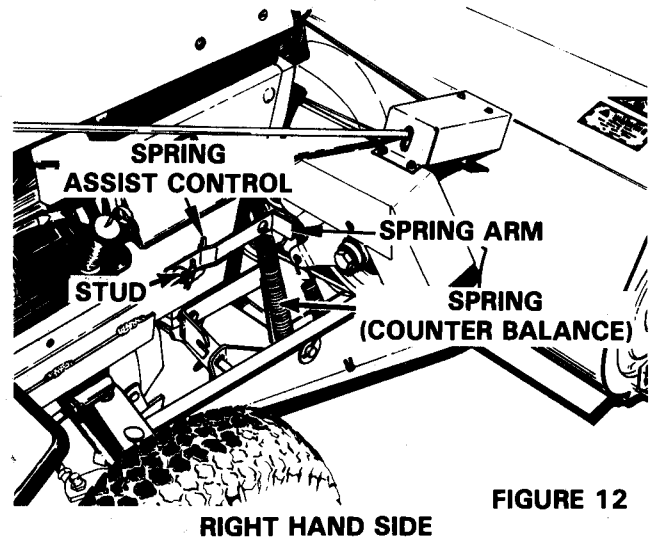

FIGURE 12
4. Install Stud 12268 in existing hole in R.H. side of tractor frame from inside out, secure with locknut. See Figure 12.
7. Install a Latch 31920 to both sides of tractor frame as shown with Cap Screw 59069, Spacer 25135, Spacer 6071, Latch 31029, Washer 64002 and locknut 65042. Figures 12 and 13.